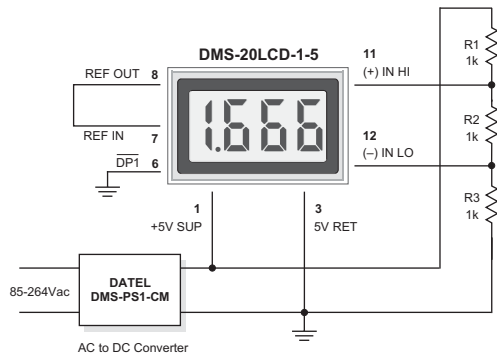

Figure 3. Differential Input Configuration
- 2. Differential Input Configurations:** Differential measurements can be made with either 5V-powered or 9V-powered meters. Figure 3, though not a practical real-world application, uses a voltage divider to demonstrate the concept of a differential input signal. Be careful not to exceed the $\pm 2V$ common mode voltage limitation for 5V powered meters.